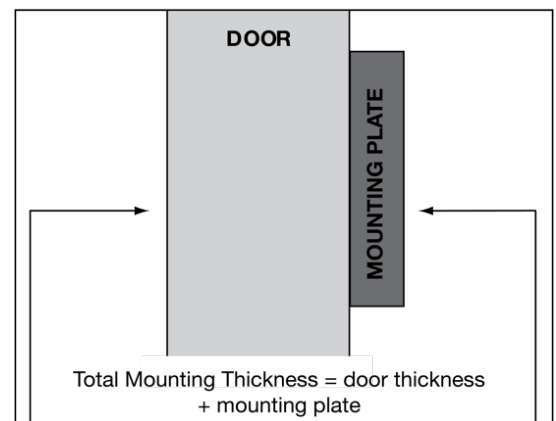

Figure 8
4. Measure total mounting thickness (door thickness + mounting plate). (Figure 8)